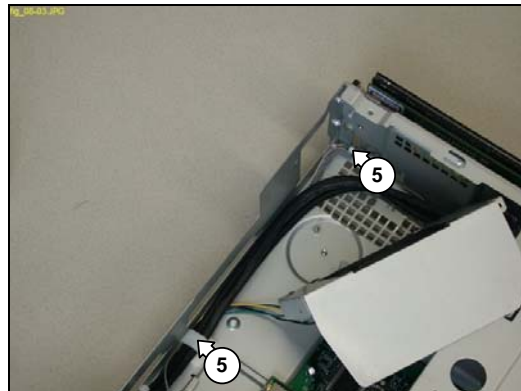

Figure 12.8-3
9. Release the right antenna cable from the cable clips (5). See Figure 12.8-3.